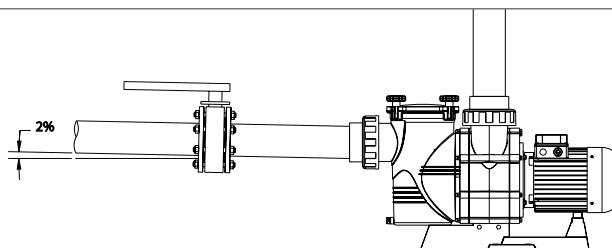

Fig. 2
- The connection of the pipes must be threaded to the outlets of the pump. (Fig.2)
- ⚠** • Impulsion tube installation is done totally perpendicularly and is well centred with respect to the nozzle to be connected so as to avoid external pressure being exerted on the pump and the tube. Apart from making assembly more difficult, this pressure could even break them. (Fig. 2)
- !** • Suction tube installation is done at a slight angle of 2 % towards the pump, thus avoiding siphon formation. (Fig.2).